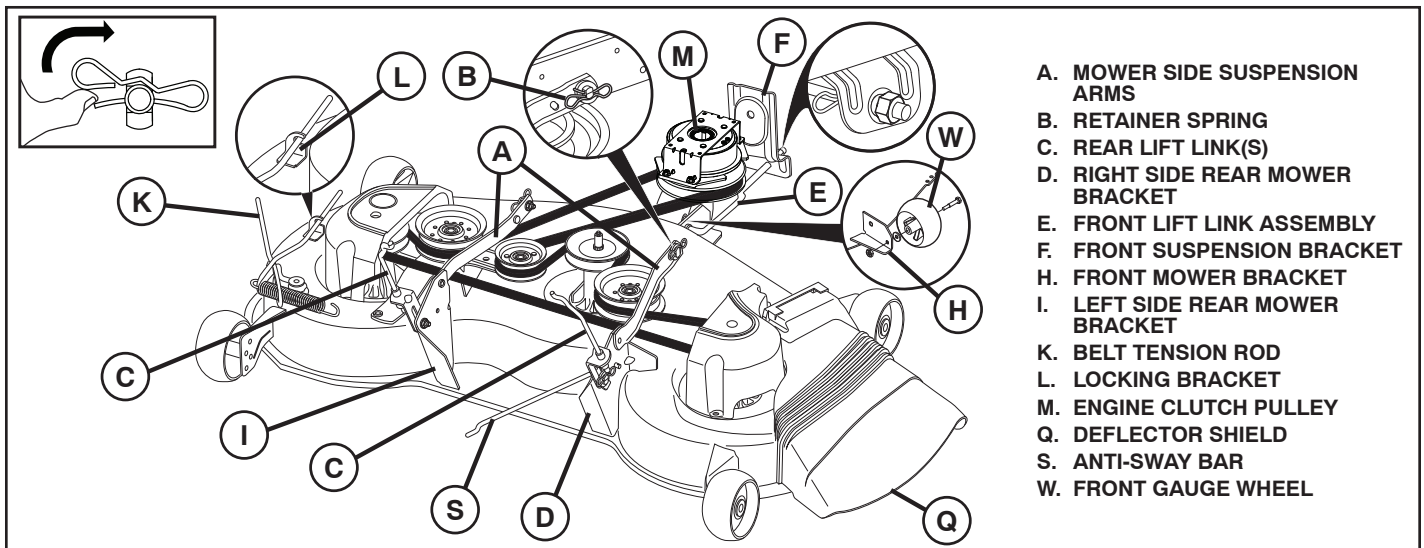

Fig. 21
TO REMOVE MOWER (See Fig. 21)
TO INSTALL MOWER (See Figs. 21 - 33)
1. SET PARKING BRAKE LEVER AND LOWER ATTACHMENT LIFT LEVER (See Fig. 21 & 22)
9 INSTALL BELT ON ENGINE CLUTCH PULLEY (M) (See Fig. 21 & 33)
- Disengage belt tension rod (K) from locking bracket (L).
- Install belt onto engine clutch pulley (M).